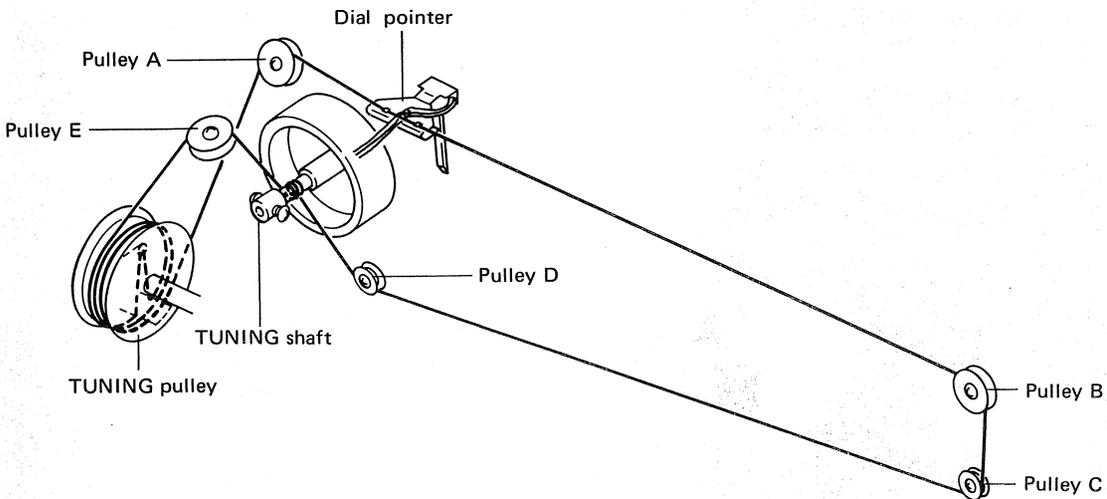

Fig. 4
5. Set the variable capacitor at the fully-opened position. Adjust the thread setting dial needle to the right end (higher position of the frequency scale), as shown in Fig. 4.